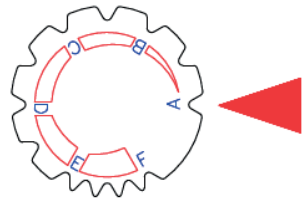

Figure 7.
- set the speed on a scale from A to F (figure 7)